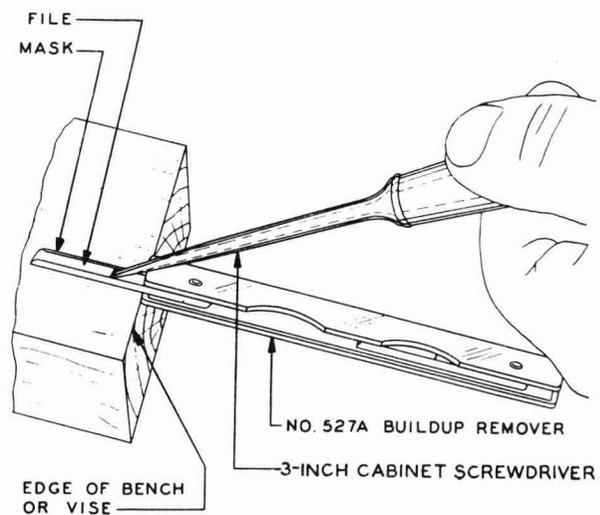

Fig. 1 – Method of Removing File From Mask
3.03 Clean the file portion of the No. 527A build-up remover before each usage. To do this, remove the file from the mask by placing the blade face down on the edge of a bench or vise with the handle extending over the edge. Then place the blade of the 3-inch cabinet screwdriver in back of the file as indicated in Fig. 1 and tap the handle of the screwdriver lightly, using the handle of another screwdriver or similar object, thus forcing the file from the mask.